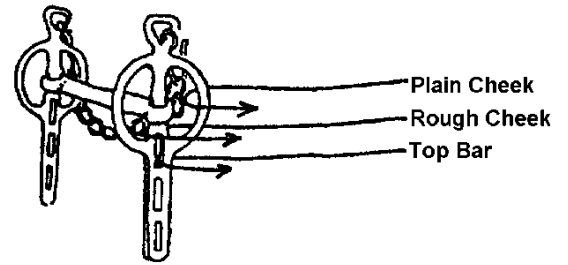

Fig. 1 - Rein fitting on Liverpool Bit
- The RDA CD Coach's reins are usually one setting below those of the disabled driver, giving stronger curb action in case of an emergency (see Figure 1).